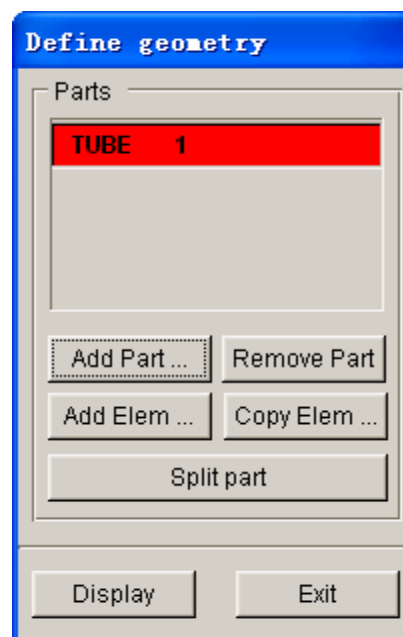

Figure 3.10 Tube geometry list
5. After selecting the part, click on **OK** button to return to DEFINE GEOMETRY dialog box. The **TUBE** part is added to the list. See Figure3.10.